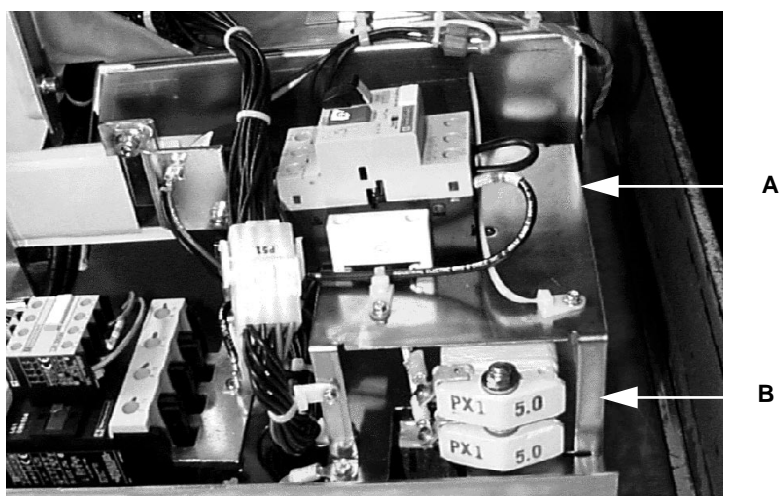

Figure 4.2.37: Precharge Resistors
2. Remove the two screws at the top corners of the precharge circuit protector mounting plate (**A** in Figure 4.2.37) and slide the plate up and off its bracket.
3. Disconnect the four power connections from the precharge resistors (**B** in Figure 4.2.37). Note the location of the connections for reinstallation.